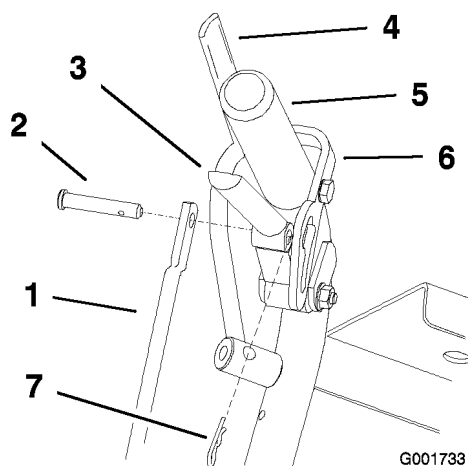

Figure 17
1. Remove the hairpin cotter pins and clevis pins from the drive levers and neutral locks (Figure 17).
- Install hairpin cotter between drive levers and neutral locks and into clevis pins (Figure 17).